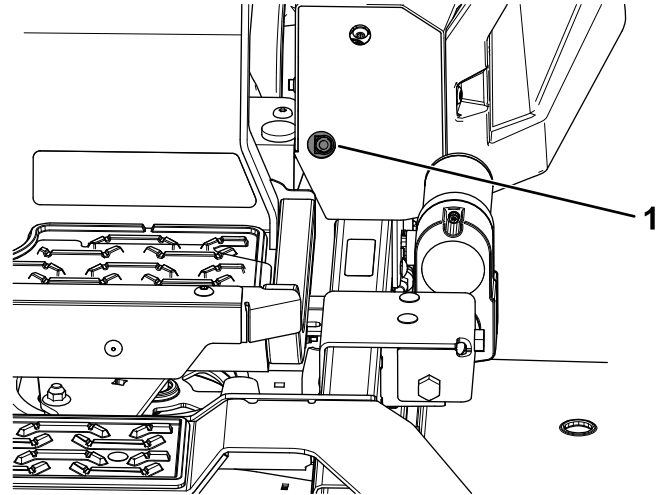
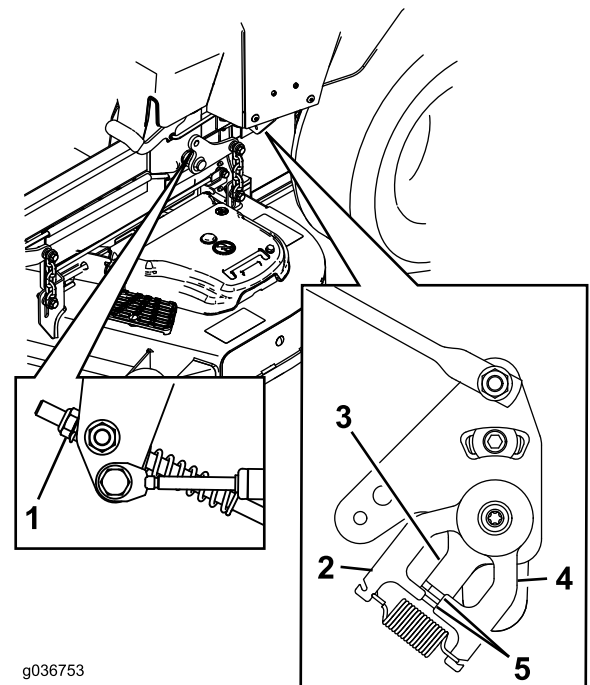

Figure 84
Figure 85
11. Adjust the pump-control-rod lengths by rotating the nut in the appropriate direction until the wheels slightly creep in reverse (Figure 84 and Figure 85).